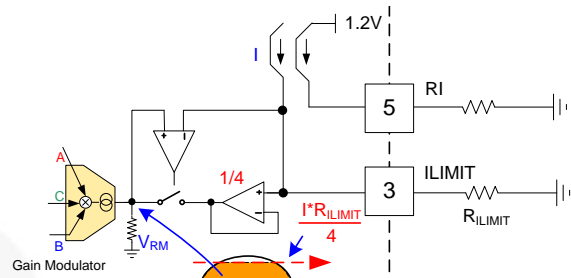
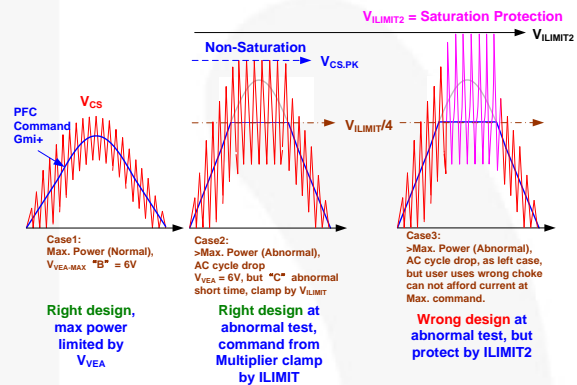

Figure 22. Current Command Limit by ILIMIT
Figure 23. ILIMIT and ILIMIT2 Setting
**Case 2, current limit 1 (abnormal state):** The current command from the gain modulator is  $k \cdot I_{AC} \cdot V_{VEA} / V_{LPK}^2$ . When in abnormal state (e.g. AC cycle miss and return in a short period), the  $V_{LPK}$  has a delay before returning to the original level. This delay significantly increases the current command. If the command is greater than the clamp limit level,  $V_{ILIMIT}$ , it limits as shown in Figure 22 and Figure 23. The peak current of this state can be used as the maximum current designed for each channel such that inductor current is not saturated.